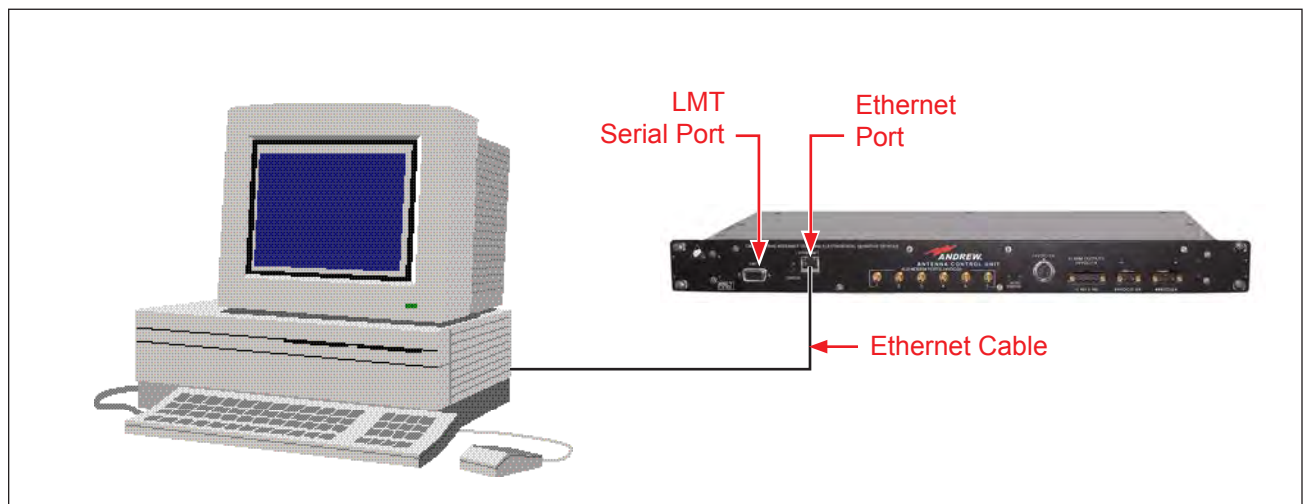

Figure 4-1. Local PC Connected To Controller's Ethernet Port Using The Ethernet Cable.
- An Ethernet cable (supplied) is required for communication between the local computer and the controller to occur as shown in Figure 4-1 (see Section 6).